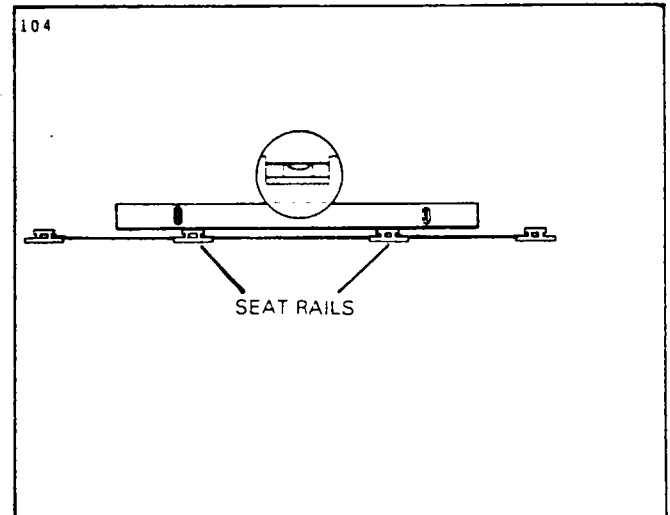

Figure 2-9. Leveling Laterally
b. To laterally level the airplane, place a spirit level across the two center seat rails of the cabin (Refer to Figure 2-9.) and deflate the tire on the high side of the airplane or adjust either jack until the bubble of the level is centered.